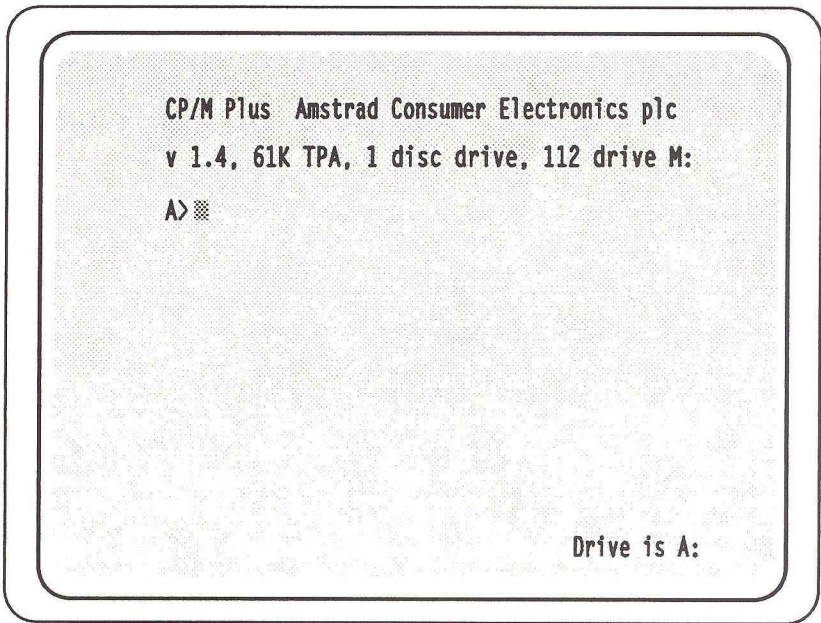

Figure 1-1: The CP/M Sign-on Screen. (PCW8256 illustrated)
- 3** When you get the sign-on screen (see Figure 1-1), key-in (in lower case or in capitals): (a) With an 8000 series machine, **TYPE PROFILE.ENG** – or (b) With a 9000 series machine, **TYPE PROFILE.SUB**. Apart from the case, make sure you copy this exactly. The spacing and the punctuation are very important. If you make a mistake, use the **←DEL** key to space back and rub out the error. Then key-in the correction.